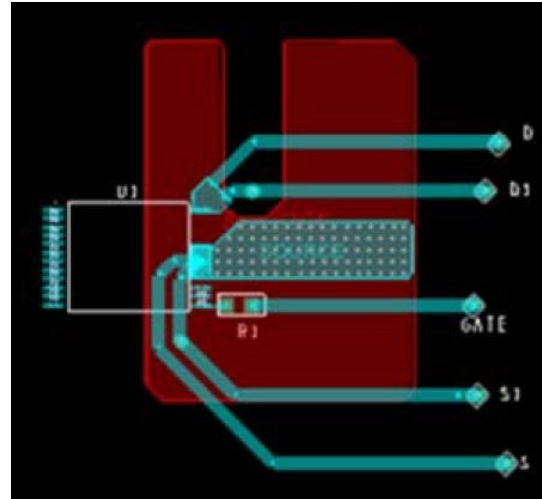

Figure 39. Thermal Resistance Test Conditions for PowiGaN Devices (INN3379C and INN3370C.)
Testing performed on custom thermal test PCB as shown in Figure 39. The test board consists of 2 layers of 2 oz. Cu with the InSOP package mounted to the top surface and connected to a bottom layer Cu heat sinking area of 550 mm2.
4. Please see Figure 39.